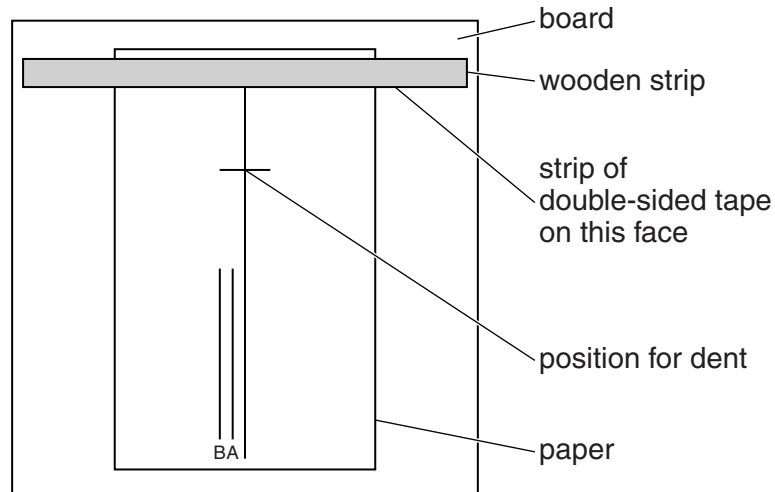

**Fig. 2.1**
- 1 Make the ramp from a triangle cut from grooved board (e.g. tongue and groove board). Glue a wooden block to the side so that the ramp stands vertically, as shown in Fig. 2.1.